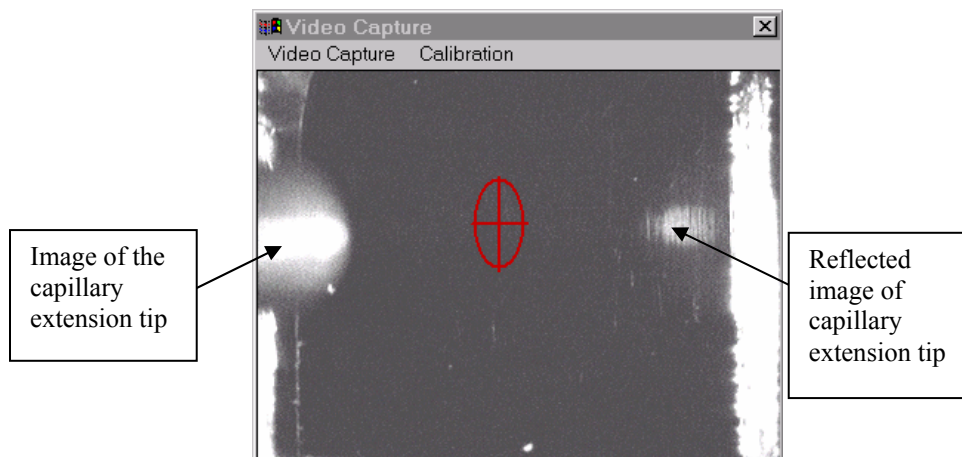

Fig. 8-2 Blank sample spot on the Video Capture screen
Step 1. First, you need to determine if the laser spot is misaligned or not. Prepare several target spots with 1-2 μL of undiluted matrix (it could be either pure matrix solution or matrix/any analyte mixture) on a shiny gold target plate. After drying, insert the target plate into the source, close it, switch it ON (if it was not switched before) and run the Target software (if this was not done already). Choose any empty (blank) target position. The picture on the Video Capture screen should look as follows (Fig. 8-2):